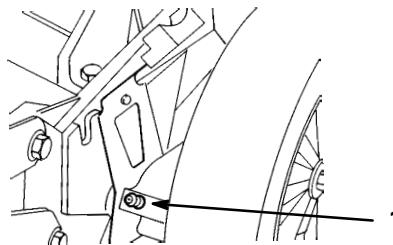

Figure 22
1. Wipe the grease fittings on the rear height-of-cut adjustors (Fig. 22) with a clean rag.